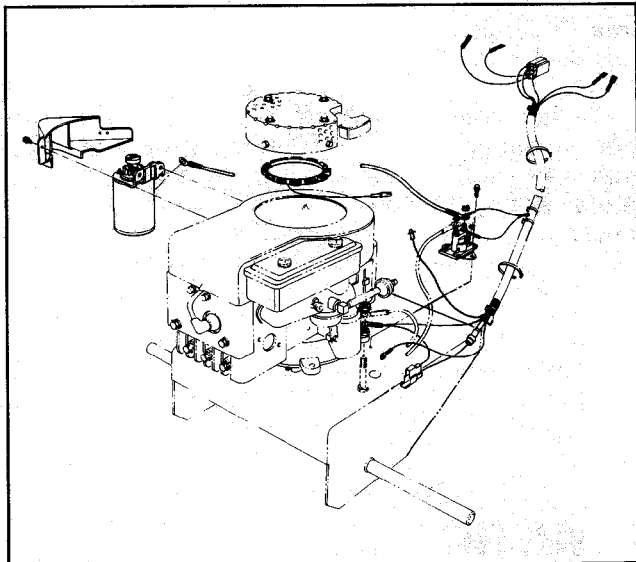

Figure 6
**Note:** A harness wire (yellow) is not used for this assembly. Fold the wire under and slip the end back into the harness insulating cover to secure it from possible damage (Fig. 6).
9. Connect engine alternator wire to (orange) harness wire (Fig. 6).